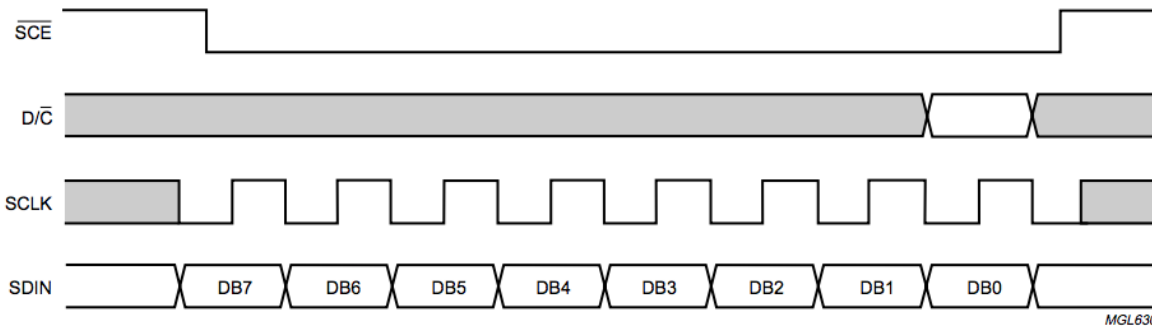

Fig.10 Serial bus protocol - transmission of one byte.
*Reference: LCD data sheet, Fig 10, p12*